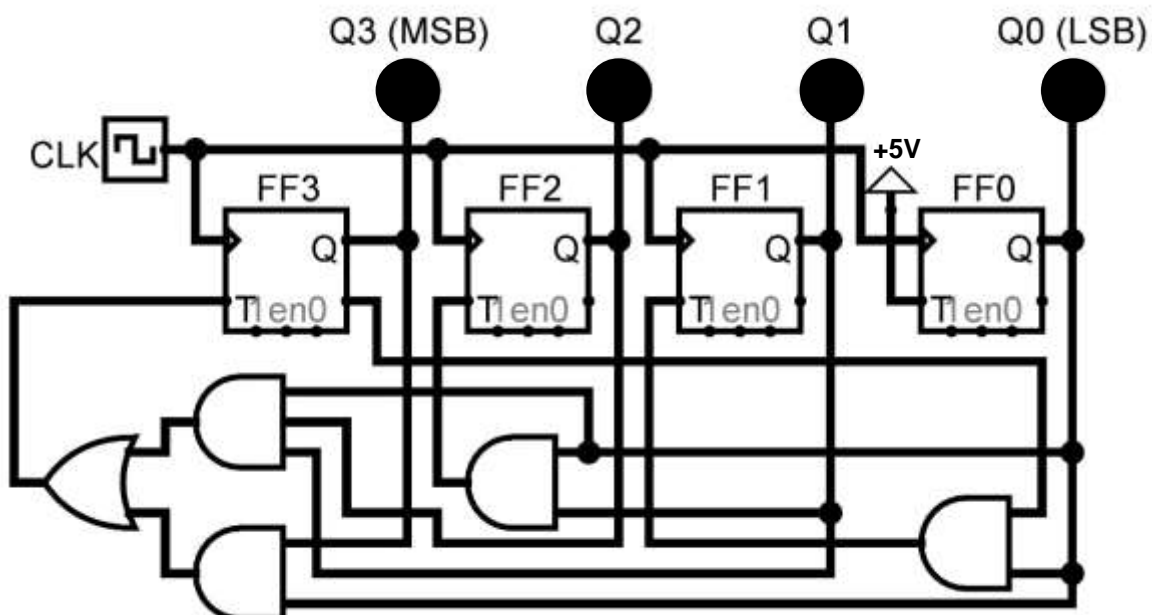

Figure 2(b)
- (b) Figure 2(b) shows a 4-bit synchronous counter, which is designed to perform a specific counting sequence.
- (i) Provide all the output Boolean expressions obtained from Figure 2(b). (3 marks)